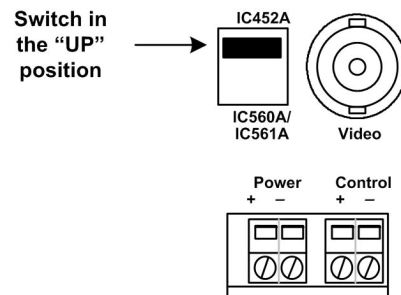

Figure 6: Port Setting – Pass-Thru Mode (IC452A)
5. In order to transmit video on one (1) twisted pair, remote power on two (2) twisted pairs and control on one (1) twisted pair, set the port switch to Pass-Thru Mode (IC452A) using a small flathead screwdriver, as shown in fig 6. Ensure that there is a CCTV Pass-Thru Balun (IC452A) at the camera.